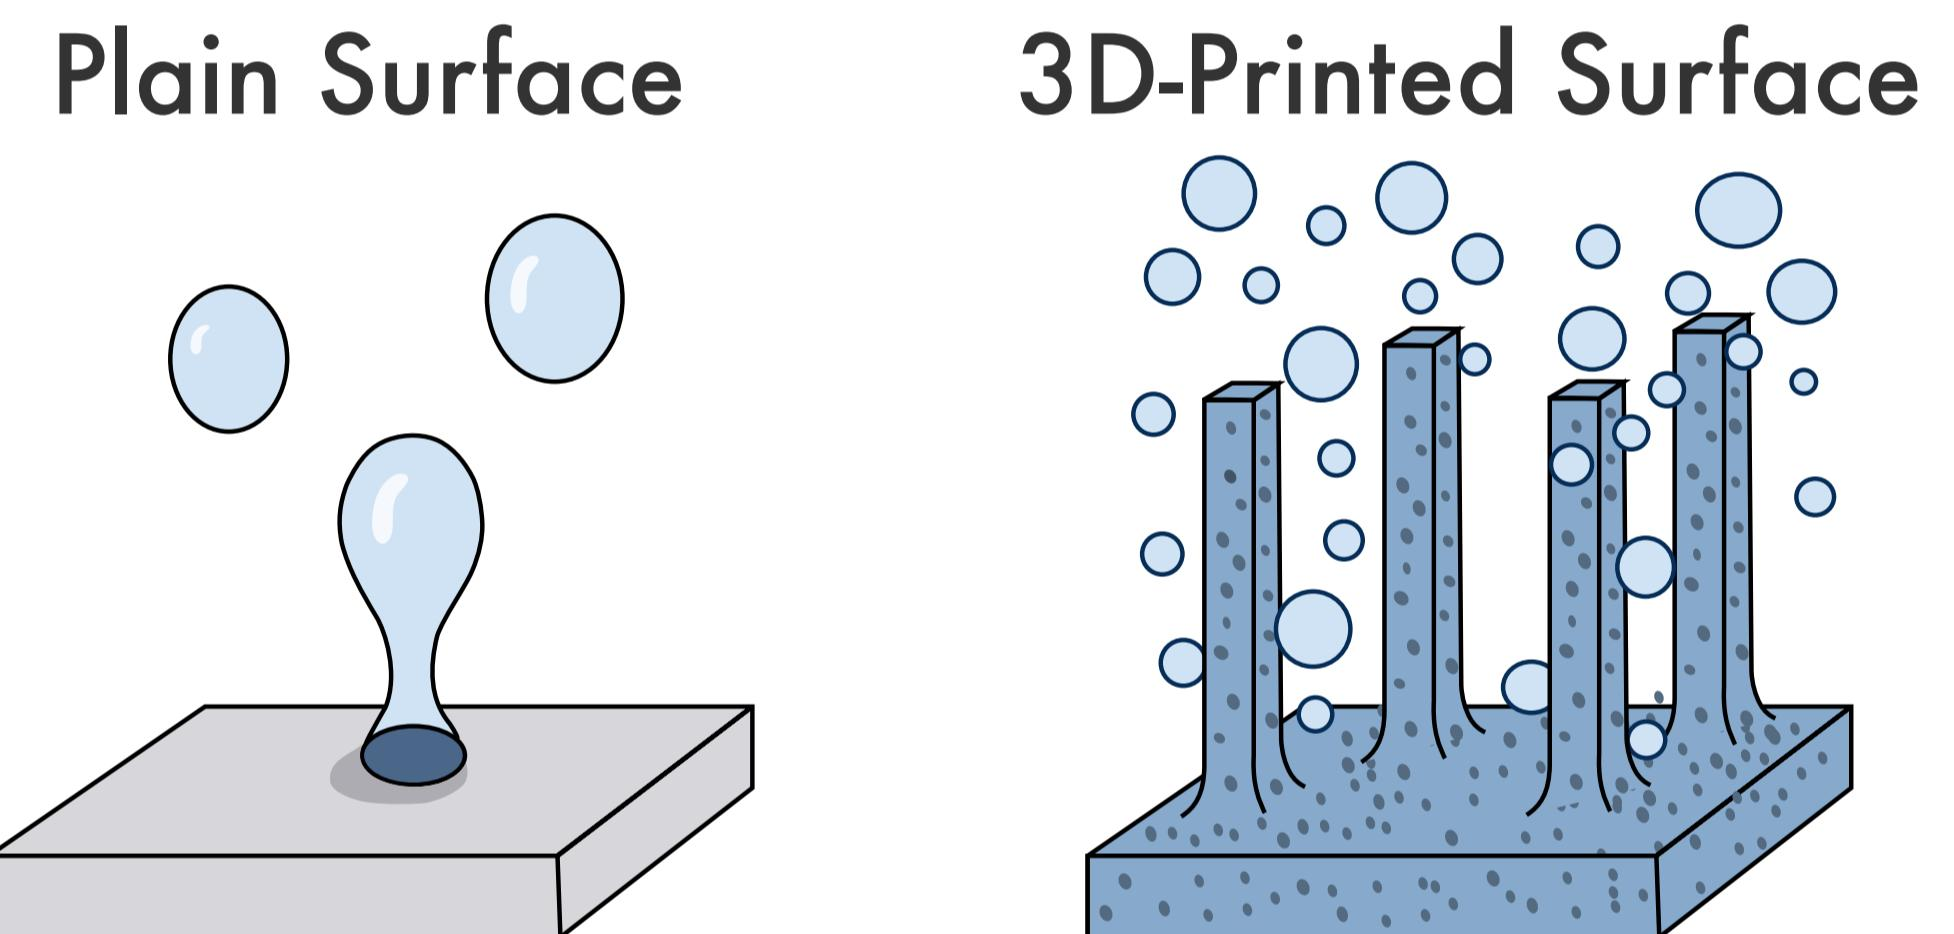

Figure 2. Plain vs 3D-Printed Surface Showing Enhanced Bubble Generation.
- 3D-printed surface improves boiling by adding roughness & porosity for better heat transfer (Fig. 2).